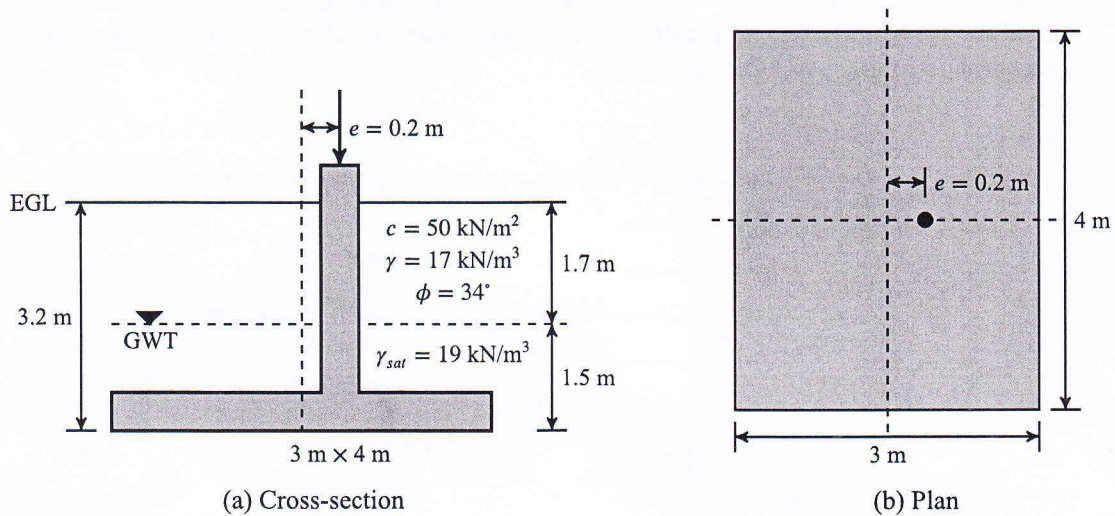

Figure 3: for QUESTION 3(c)
- (c) For the eccentrically loaded rectangular footing as shown in the following figure (Fig. 3), determine the net allowable bearing capacity assuming a factor of safety of 3. Use Meyerhof's effective area method. (12)